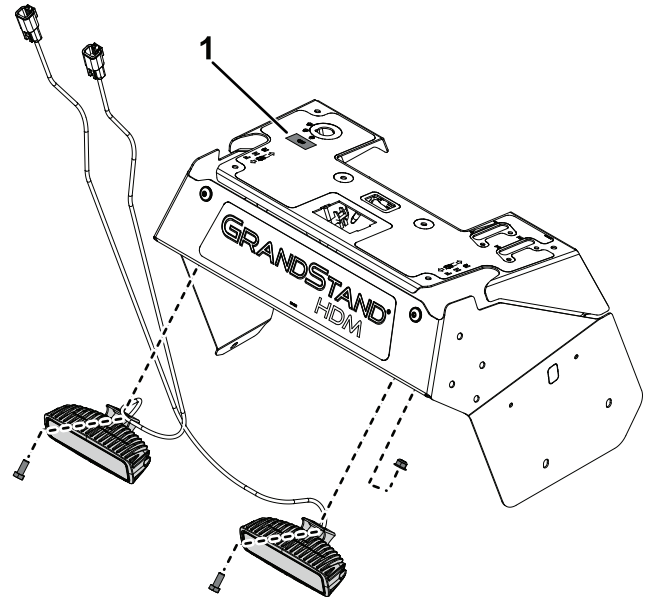

Figure 1
2. Carefully cut the control panel decal where the light symbol is shown (Figure 1). Remove the knockout from control panel.